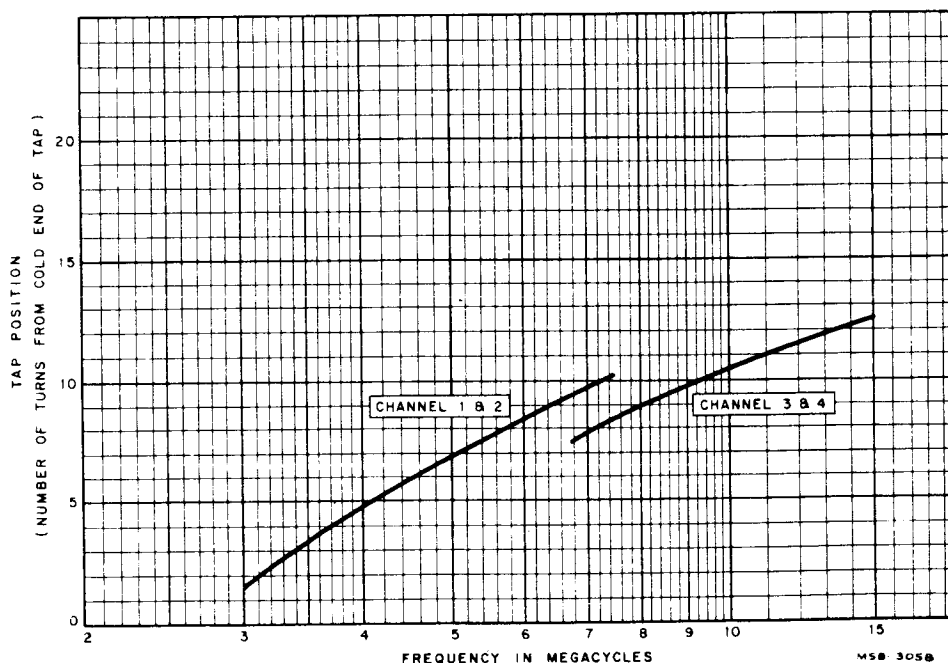

Fig. 42—Tap Positions of Plate Tank Coil L202
2. Place switch (S) on the front panel in MONITOR.
4. Place switch (P) on the front panel in the TELEGRAPH position.
6. Position tap #1 (tap connectors are marked with channel number) at the approximate number of turns from the "cold" end of PA tuning coil L202 indicated by the chart, figure 42. The "cold" end of the coil is the end nearest to the ANTENNA TUNING coil, L201. Position the remaining taps for channels 2, 3 and 4 according to the number of turns indicated on the chart.